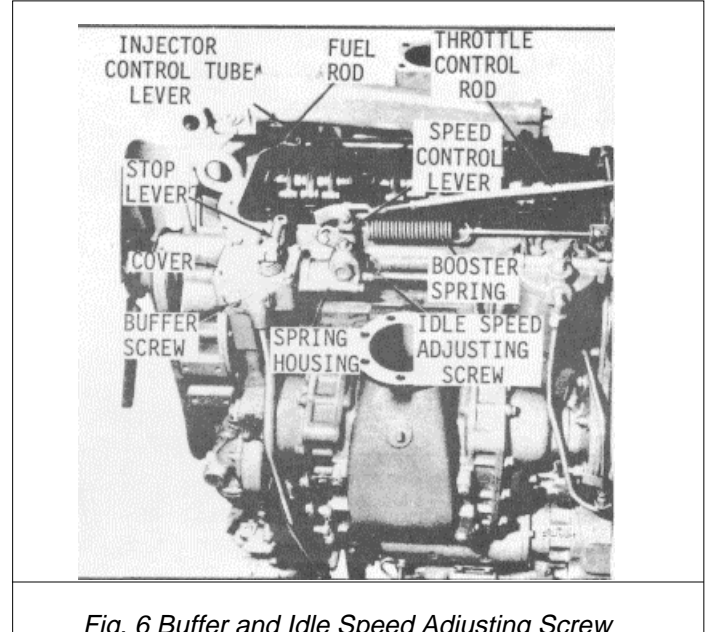

Fig. 6 Buffer and Idle Speed Adjusting Screw
- (1) Refer to Fig. 6 and disconnect the booster spring.
- (1) Move the speed control lever to the idle speed position.
- (2) Refer to Fig. 6 and loosen the booster spring retaining nut on the speed control lever. Loosen the nut and locknut on the eye bolt at the opposite end of the booster spring.